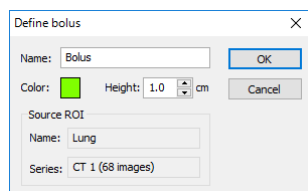

Figure 271 – Define bolus dialog
1. Select the ROI for which you want to create a bolus, and click the **Bolus...** button in the **ROI drawing** tool. The **Define bolus** dialog (see Figure 271) is then displayed in which is possible to enter the name of the bolus ROI and its color and to define the height of bolus in cm in the **Height** box.